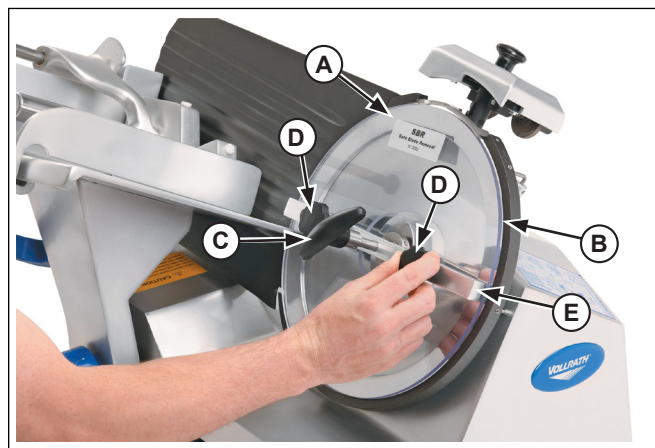

Figure 12. Safe Blade Removal Tool and Blade
2. Lift the knob (C) and sharpening assembly to the "UP" position.
3. Set the safe blade removal tool (A) onto the knife (B) aligning with center blade hole.
4. Screw the two knobs (D) into the corresponding holes on the knife (B) and tighten the knobs (D). See Figure 12.
12. Tighten the knife (B).
13. Unscrew the two knobs (D) while holding the cross bar (E). See Figure 12.